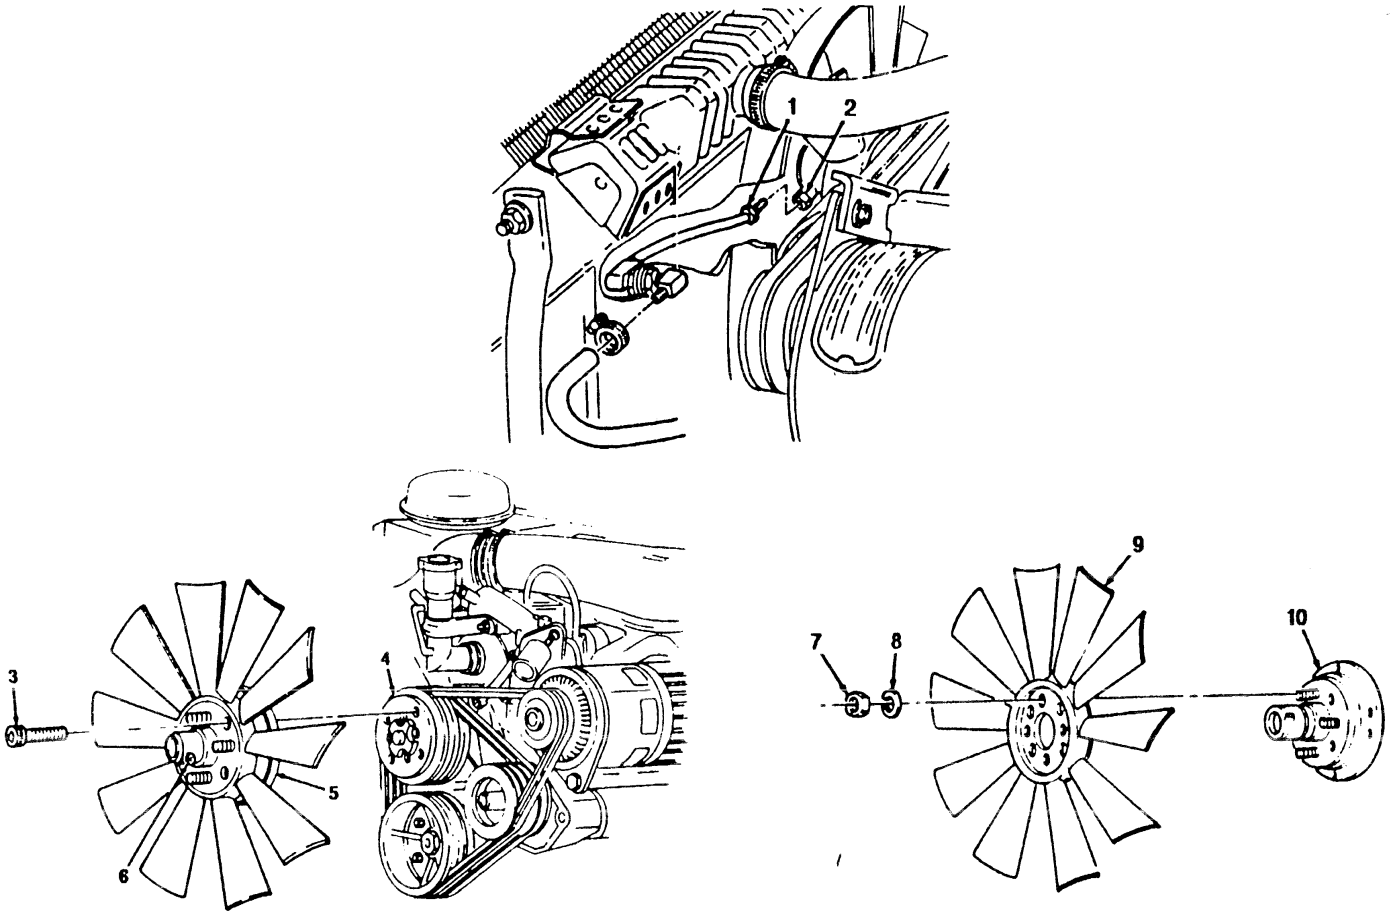

FIGURE 3-5
1. Disconnect fan drive hose (1) from fan drive (2). (see figure 3-5)
2. Using hex head driver, remove four socket-head screws (3) and fan drive assembly (5) from water pump pulley (4). (see figure 3-5)
3. Remove four nuts (7), lockwashers (8) and fan blade (9) from fan drive (10). Discard lockwashers (8).